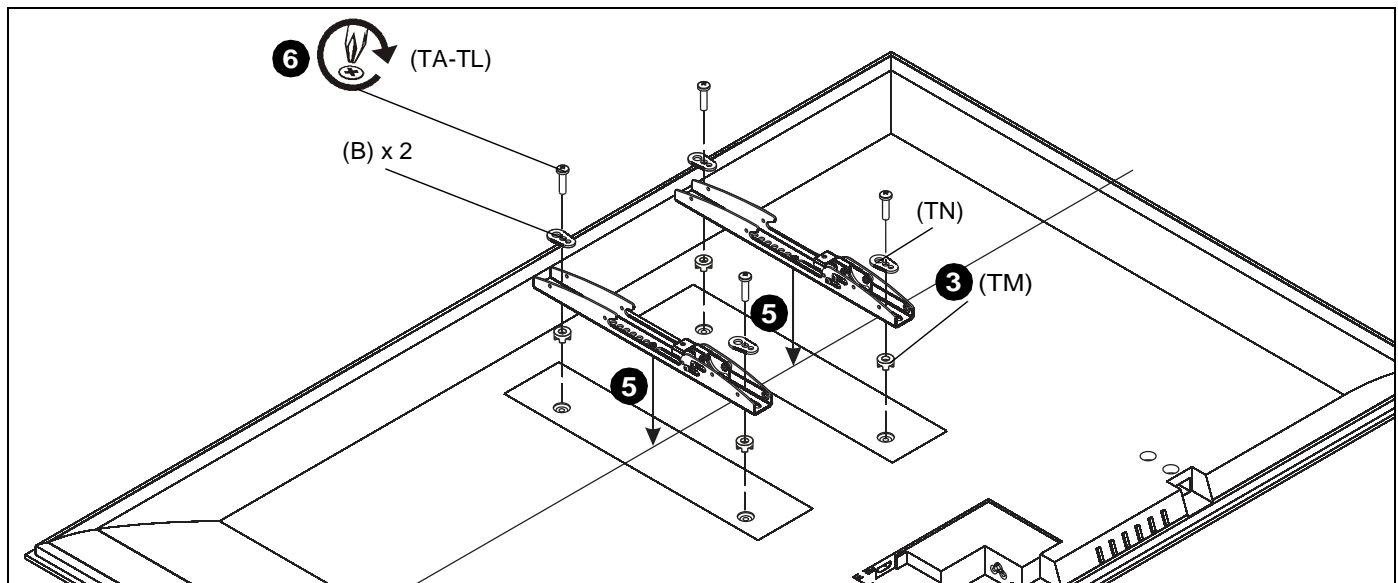

Figure 6
2. Select screw *diameter* by examining hardware (TA-TL) (4mm, 5mm, 6mm or 8mm) and comparing with mounting holes on display. (See Figure 6)
3. Select spacers: (See Figure 6)
- If mounting holes are not recessed and both uprights (B) can lay flat against display, then no spacers are required.
- If mounting holes are recessed, or if protrusions prevent uprights (B) from laying flat, then spacers (TM) must be used.
4. Select screw *length*: (See Figure 6)
- Using your hand, insert **SHORTEST** length screw of selected diameter (TA, TD, TG or T.J) through universal washer (TN), uprights (B), nesting
- NOTE:** Universal washers (TN) are not needed if using M8 button head cap screws (TJ, TK or TL).
5. Place uprights (B) on display, ensuring: (See Figure 6)
- Center of uprights (B) are as close to the center of the back of display as possible after being installed. Center of bracket is indicated by the diamond-shaped hole.
6. Use selected screws and spacers to install two interface uprights (B) to back of display. (See Figure 6)